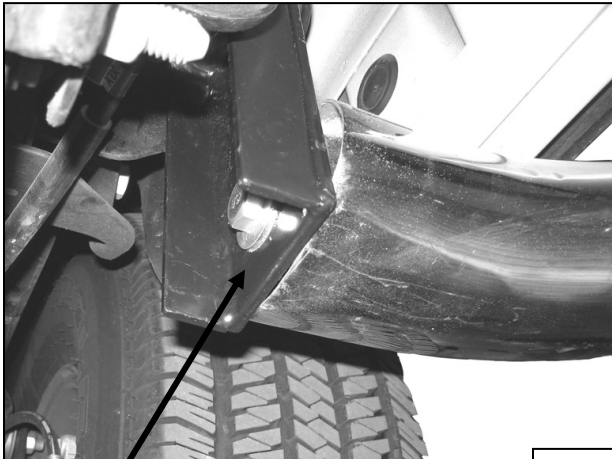

Fig 3
- Attach driver Sidebar to Mounting Brackets using the included (2) ½" x 2" Hex Head Bolts, (2) ½" Lock Washers, and (2) ½" Flat Washers (**Figure 3**). Do not tighten at this time.